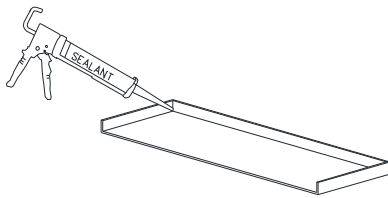

Figure 12:
2. Apply sealant in all corners and seams of the sillpan (Figure 12).